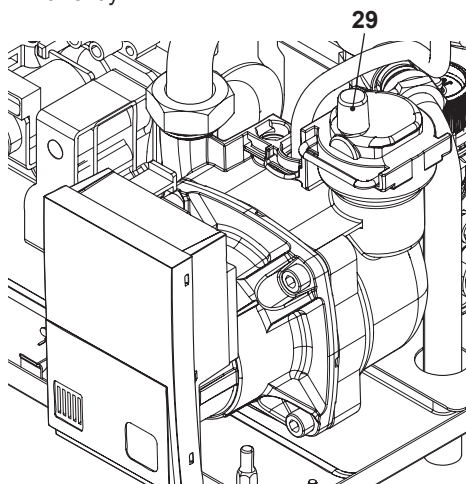

Fig. 7.2
- Unscrew the plug on the automatic air purger valve 29 in Fig. 7.2 and leave open permanently.